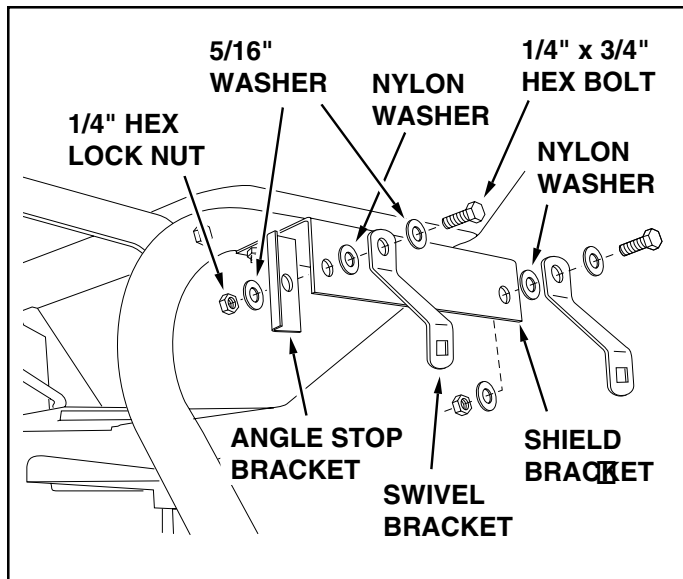

FIGURE 13
24. Attach an angle stop bracket and a swivel bracket to the rear hole in the R.H. shield bracket using a 1/4" x 3/4" hex bolt, two 5/16" washers, a nylon washer and a 1/4" hex lock nut. Place the angle stop bracket on the inside and the swivel bracket on the outside. **Tighten** the locknut so that the swivel bracket can pivot freely. See figure 13. Repeat step on L.H. shield bracket.
25. Attach a swivel bracket to the front hole in the R.H. shield bracket using a 1/4" x 3/4" hex bolt, two 5/16" washers, a nylon washer and a 1/4" hex lock nut. **Tighten** the locknut so that the swivel bracket can pivot freely. See figure 13. Repeat step on L.H. shield bracket.